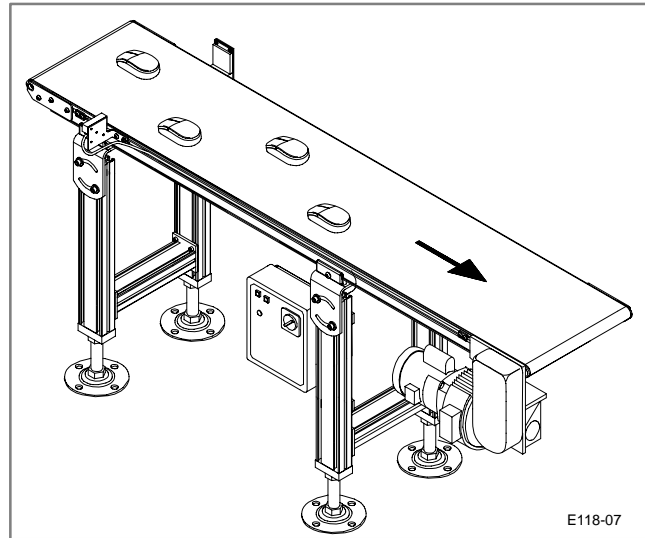

Figure 7: Sample Electric Clutch/Brake & Photo-Eye Application
- c. Shown here is an application in which the conveyor, which is controlled by a Clutch/Brake, is normally stopped and runs only when a parts blocks the beam of the Photo-Eye (Figure 7).